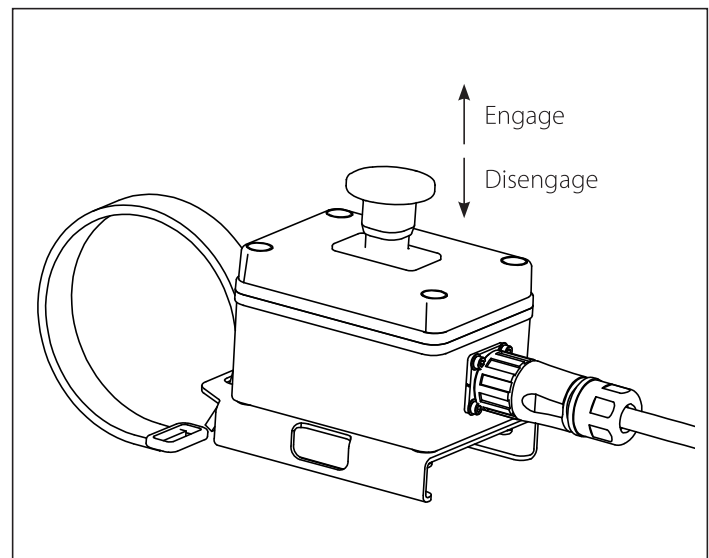

Figure 9
2. Make sure the blade clutch switch is in the DISENGAGED position. See Figure 9
2. Engage the cutter blades by pulling the blade clutch switch up/out on the control box. *See Figure 9*
3. Disengage the cutter blades by pushing the blade clutch switch down/in on the control box. *See Figure 9*